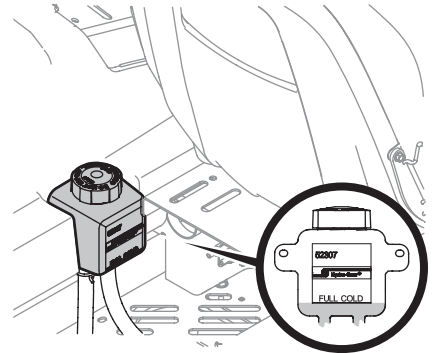

Figure 40
1. Pivot the operator's seat forward and clean the reservoir cap and the area around the cap to prevent debris from contaminating the transmission oil. See Figure 40.
2. Turn the reservoir cap counter-clockwise to remove, then check the oil level in the reservoir. Oil should be visible at the bottom of the cap, but the oil level must NOT be above the "FULL COLD" line. See Figure 40. **DO NOT FILL THE RESERVOIR.**